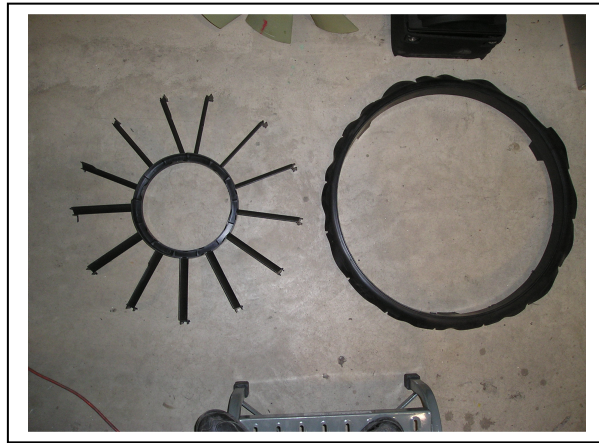

Figure 4
29. Using a hacksaw or zip tool, trim the center from the fan air deflector. See **Figure 4**.